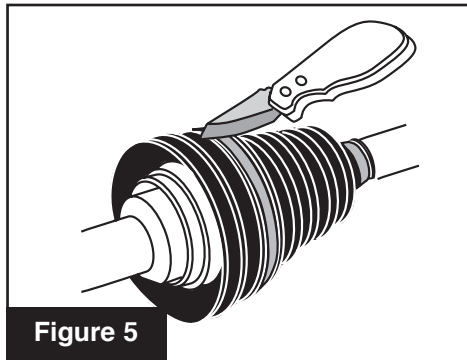
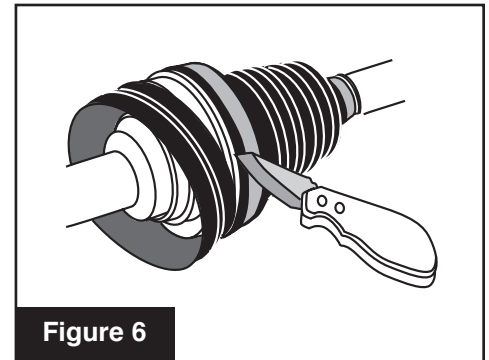

Figure 5
Figure 6
7. If the new CV boot has excess material, as shown in **Figure 5**, trim excess material (**Figure 6**).